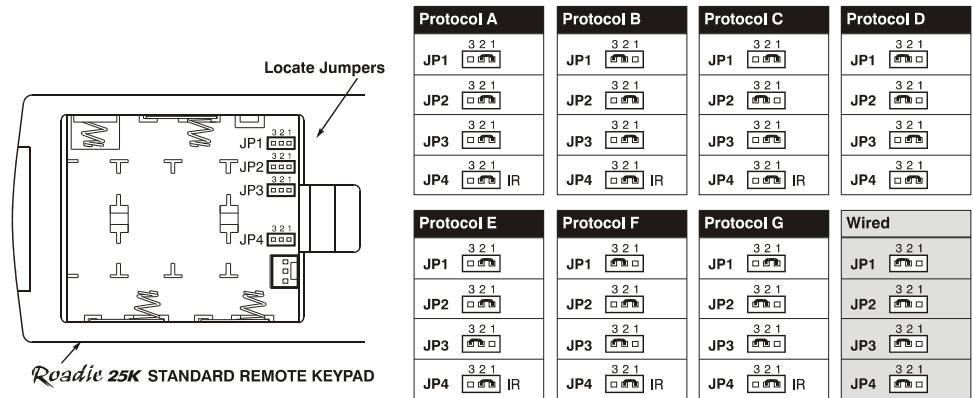

Figure 2.42. Setting the Jumpers in the “Brick” rental staging – Standard IR Remote
Set the jumpers to match one of the protocols shown in **Figure 2.42**. Use tweezers or needle-nose pliers to remove and replace each jumper as necessary.
5. Set keypad protocol to “wired” jumper setting (refer back to **Figure 2.42**). Ensure jumper #4 is set between pins 2 and 3 as shown in the last example (shaded).
5. Set jumpers according to the desired IR protocol (refer back to **Figure 2.42**). Ensure jumper #4 is set between pins 1 and 2 as shown for all remote IR protocols.